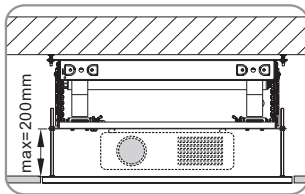

Figure 22
14. Adjust the height of decorative ceiling plate depended on the actual ceiling height, and twistsetscrew nut on the 200mm long screws assembled in the four corners of decorative ceiling plate. The max height is about 200mm (Figure 22). Please tightening screws to avoid looseness.